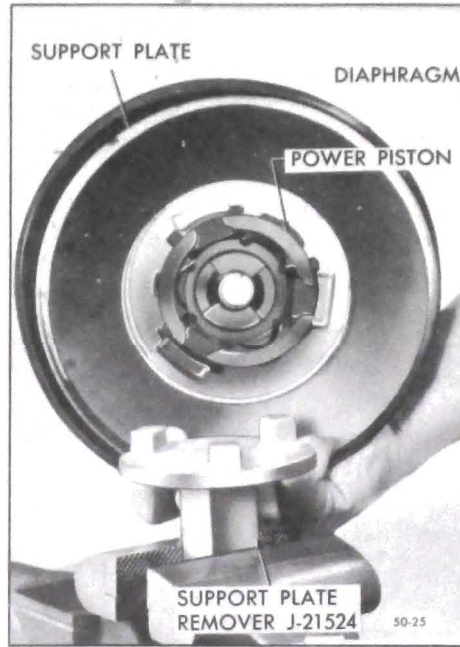

Figure 50-72--Positioning Support Plate Retainer in Vise
5. Place power piston Wrench J-21524 with square shank in vise. Hold support plate and power piston with tube of power piston up. See Figure 50-72.